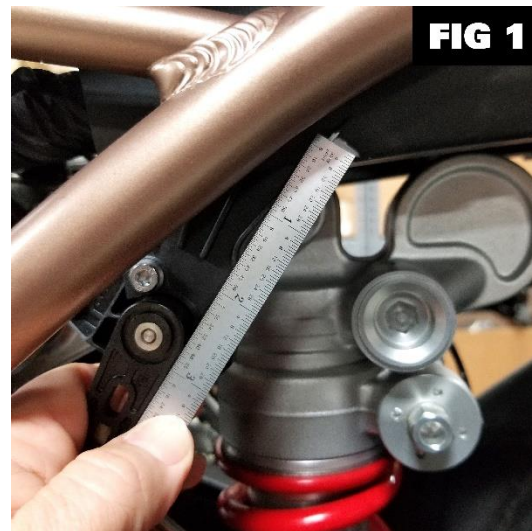

FIG 1
5. Mark angle of rear ride height sensor by placing a straight edge along the side of the lever and making a mark on the battery tray. This mark may be used later to recalibrate the DDC after lowering bike. **(FIG 1)**